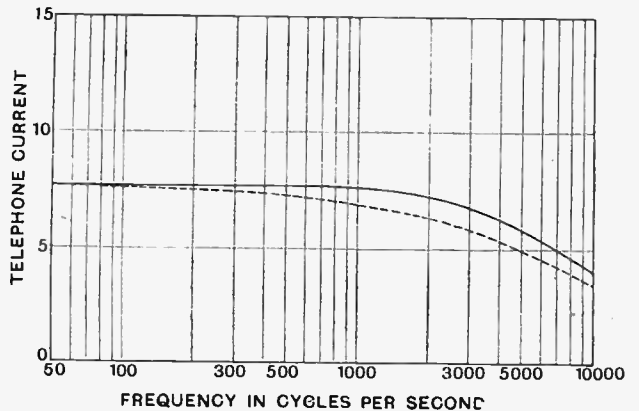

Fig. 5.—Current-frequency curve assuming a constant effective resistance of telephone receivers.
Although not a practical case it may be of interest to note that the current-frequency curve that would be obtained with an ordinary "R" valve and with three pairs of 8,000 ohm telephones in parallel for the load would be absolutely flat from 50 to 2,000 cycles per second if the effective resistance of the telephones with varying frequencies remained constant at their D.C. value of 8,000 ohms, *i.e.*, if the impedance increase was entirely due to an increase of inductive reactance. A curve representing this case is shown in Fig. 5, and should be compared with Fig. 3 (F), (dotted for convenience in Fig. 5 also); the difference between the two curves shows well the impedance augmenting effect of the resistance of the telephone receivers.